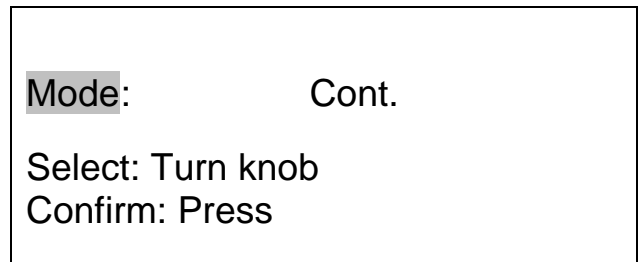

Fig. 34
- In the submenu "Mode" select the function "Cont." (fig. 34) via the knob (fig. 31.1).